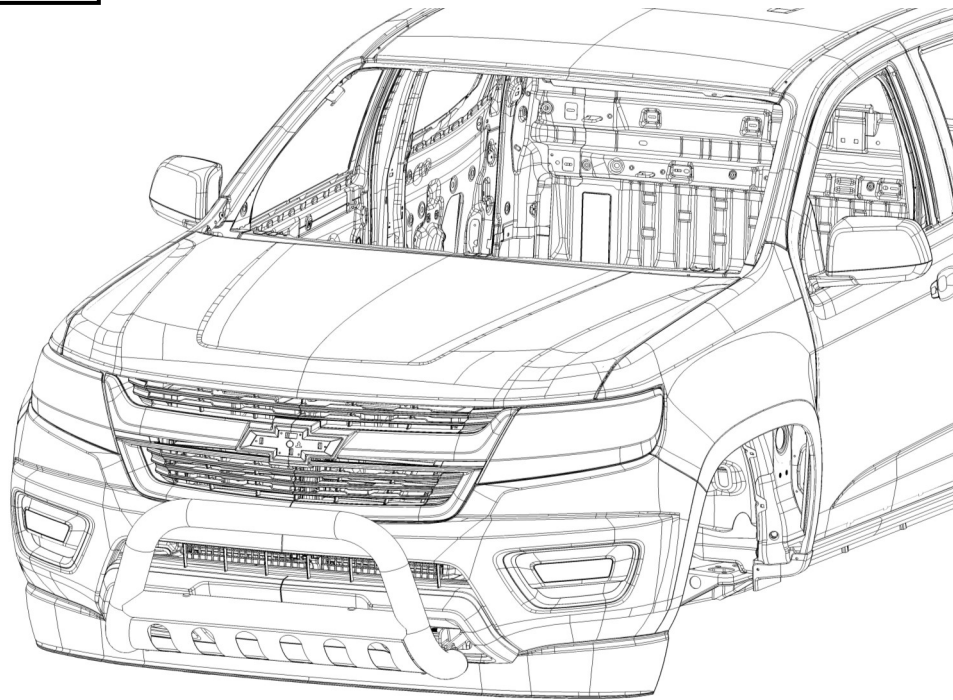

Fig. 8
7. Check the bull bar alignment with the vehicle and for clearance between the bull bar and the bumper. Adjust as required then fully tighten all hardware at this time. See **Figure 8** for a picture of bull bar mounted on vehicle.